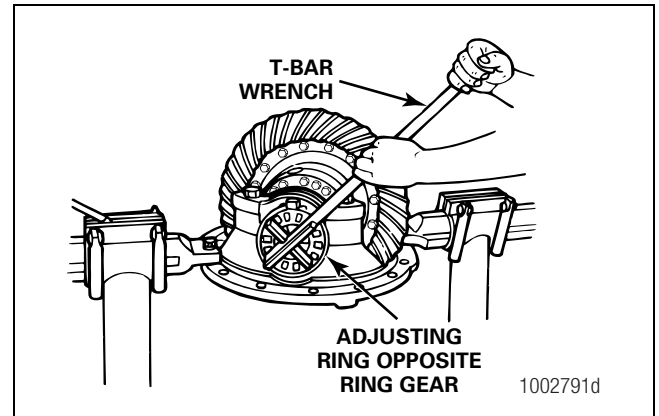

Figure 5.36
2. Use a T-bar wrench to loosen the adjusting ring that is opposite the ring gear. A small amount of end play will show on the dial indicator. Figure 5.36.
3. Use a T-bar wrench to tighten each bearing adjusting ring one notch. Figure 5.36.